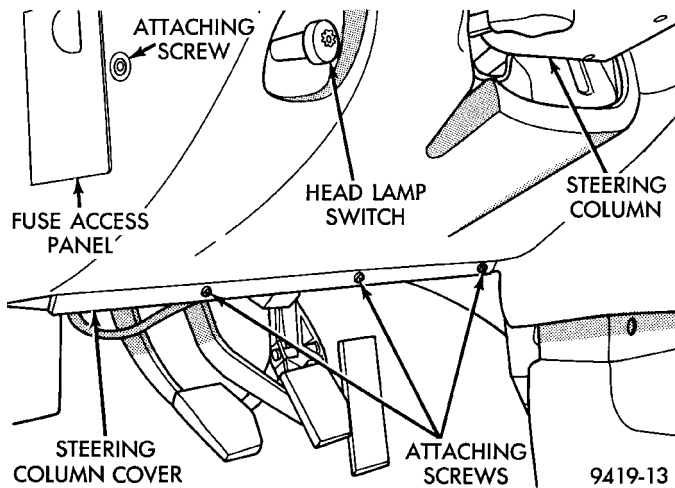

Fig. 6 Steering Column Cover
(1) Disconnect the negative (ground) cable from the battery and isolate cable.
(2) Before beginning removal of steering column assembly from vehicle, be sure front wheels of vehicle are in the **straight ahead** position.
(3) Remove the 4 screws attaching steering column cover, to lower instrument panel. Then remove the trim panel from the instrument panel (Fig. 6).
(11) Install lower instrument panel steering column cover (Fig. 6) on lower instrument panel. Install and securely tighten the 4 screws (Fig. 6) attaching steering column cover, to lower instrument panel.